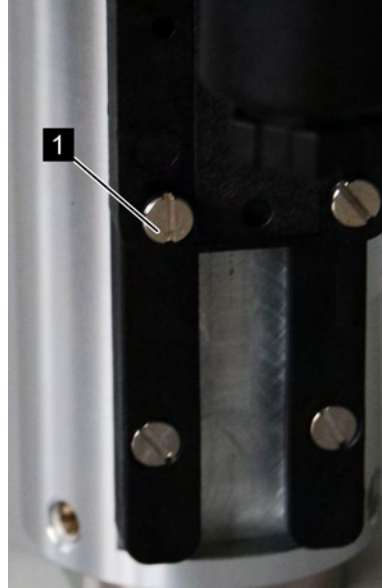

Fig. 32: Loosen set screws
1. → Loosen the set screws of the switch contact (Fig. 32/1) using a flat-bladed screwdriver
6.  Re-tighten the set screws of the switch contact (Fig. 32/1) using a flat-bladed screwdriver. When doing so, observe the correct tightening torque of the screws.